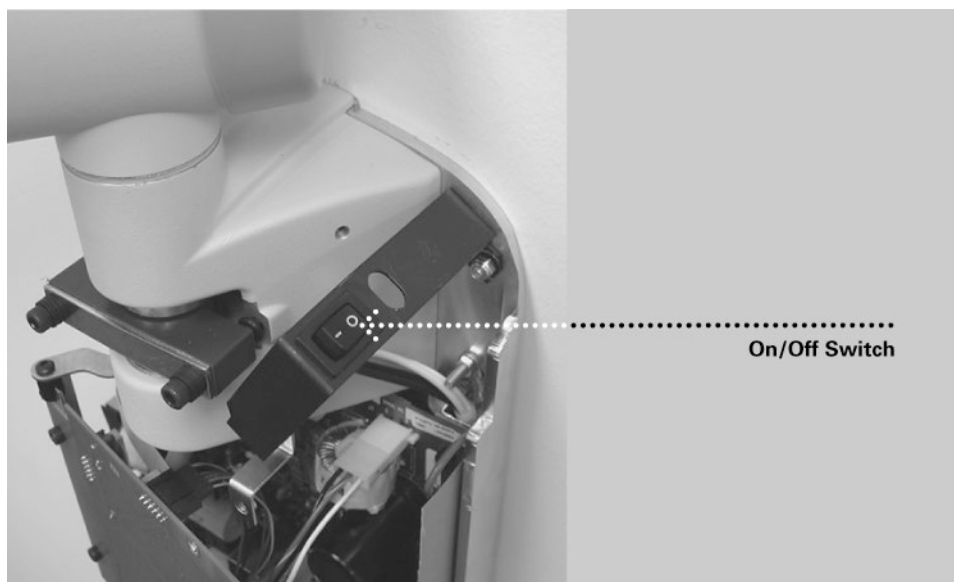

Figure 33
3. Turn on the Preva Dental X-ray System using the power switch, as shown in *Figure 32*. On the Operator Panel, *Figure 33*, the product display screen will be displayed showing the software version. Then the Operator Panel will display the default technique factors.